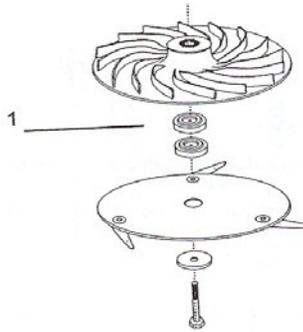

Figure 17
5. **To obtain a lower cut**, add height adjustment spacer (s) between the impeller hub and the cutter disc. Remount the cutter disc. Install the flat washer and the impeller retaining bolt. Tighten the bolt securely. (Fig. 17)